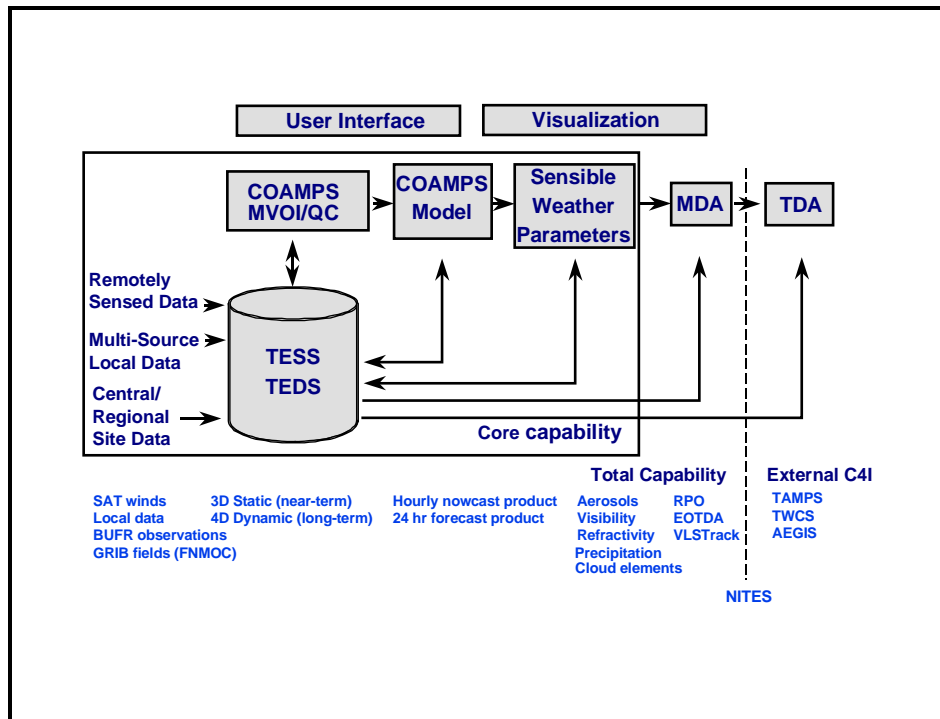

Figure 1. Schematic diagram of COAMPS-OS components and internal data flow
As shown schematically in Figure 1, the core capability of COAMPS-OS supports independent storage of local observations, satellite-derived observations, and boundary conditions from a central or regional center to maintain an on-site data assimilation capability. COAMPS-OS includes automated quality control (QC) software for atmospheric and oceanographic data, a Multi-Variate Optimum Interpolation (MVOI) atmospheric analysis, the COAMPS Ocean Data Assimilation (CODA) System, and the COAMPS forecast model. COAMPS has the ability to calculate derived sensible weather parameters from the basic atmospheric state variables to support Meteorology and Oceanography (METOC) Decision Aids (MDA) and Tactical Decision Aids (TDA). The channel between the environmental and tactical communities is provided by the Navy Integrated Tactical Environmental Subsystem (NITES), which manages and distributes data through the TEDS database.